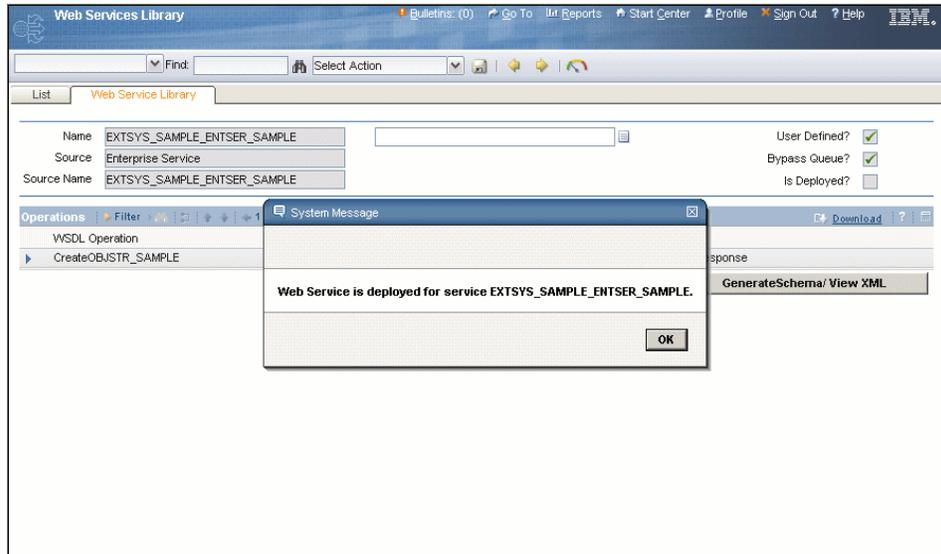

Figure 2-44 Web Service deployed
4. Click **Select Action** → **Deploy Web Service**. A system message appears as shown in Figure 2-44 on page 99.